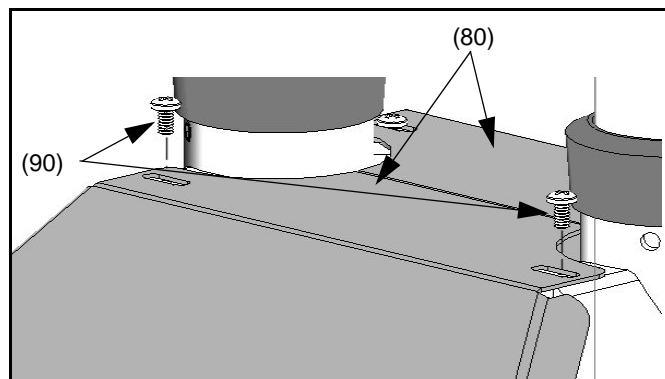

Figure 7: Install Base Covers
3. Install two base covers (80) and secure using four 10-24 X 3/8"Phillips screws (90) (see figure 7).